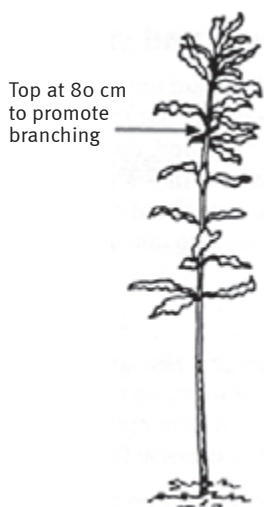

Figure 13. Pruning action where there are no lateral branches below 80 cm
1. Where a tree has produced a central leader without any branches below a height of 80 cm, prune off the top of the tree at 80 cm (Figure 13).
Ideal shaped tree (composite of figures 13 to 17)